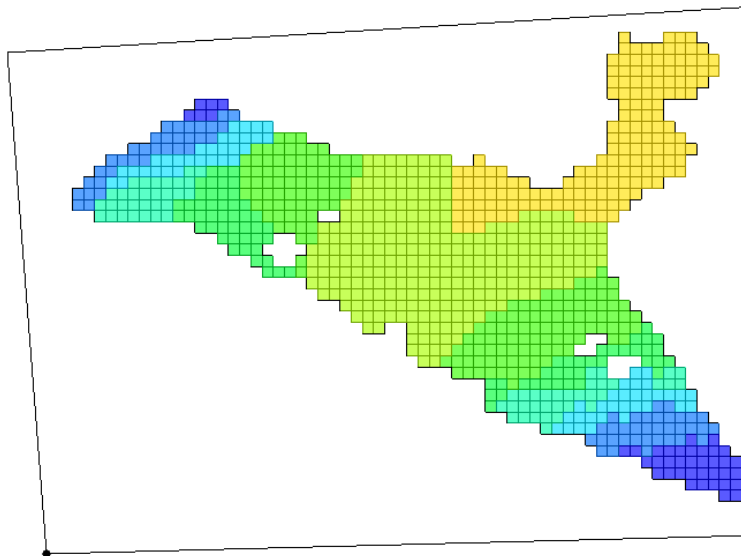

Figure 3 Creating a polygon that encompasses the model grid
3. Create an arc that surrounds the grid. End the arc on the beginning point to form a closed polygon, as shown in Figure 3.